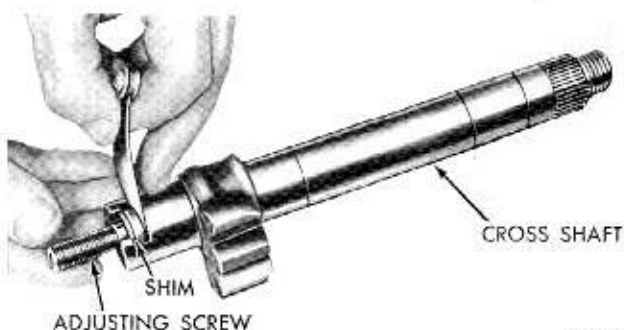

Fig. 12—Measuring Cross Shaft Adjusting Screw End Clearance
(32) Before installing cross shaft, pack wormshaft cavities in housing above and below ball nut with steering gear lubricant. Use steering gear lubricant whenever possible, but if not available, a good grade of multi-purpose lubricant may be used. Do not use gear oil. When gear is properly packed with steering gear lubricant it will contain eleven fluid ounces of lubricant, and level of lubricant will be at top of worm.
(33) Slide cross shaft adjusting screw and shim into slot in end of shaft.
(34) Test end clearance (Fig. 12). The screw must be free to turn with zero to .004 inch end play. Three different thickness shims are available to obtain specified clearance.
(35) Start cross shaft and adjuster screw into bearing in housing cover. Using a screw driver through hole in cover, turn screw counterclockwise to pull shaft into cover.
(36) Install adjusting screw lock nut, but do not tighten at this time.
(37) Rotate wormshaft to centralize ball nut.
(38) Place new cover gasket on housing cover.